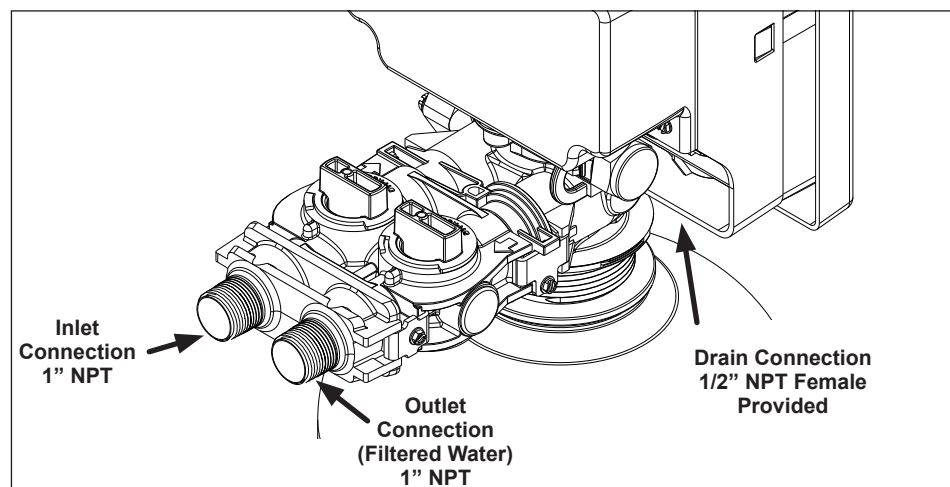

Figure 3. Control Valve Connections
- The drain line plumbing must be positioned and secured at least 2 inches above the drain (Figure 3). This air gap protects the system from contamination in the event of a backed-up drain.